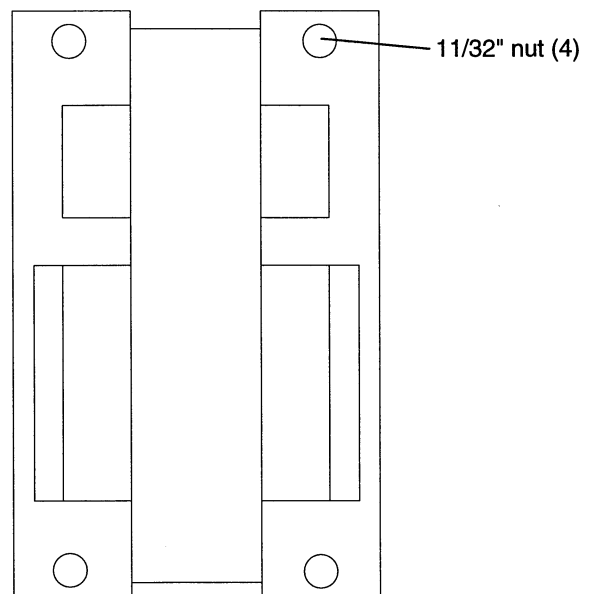

Figure 2 Transformer - top view
5. Using the 11/32" nut driver, remove the nuts securing the 5 kV transformer (Figure 2). Save the hardware.